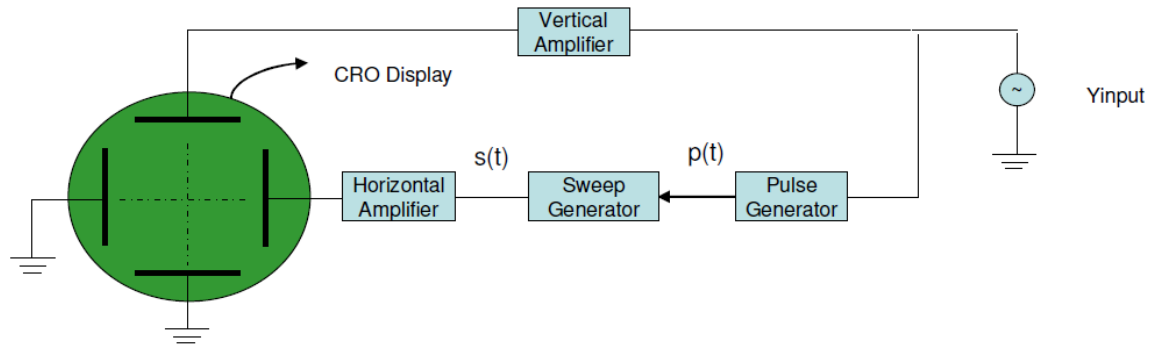
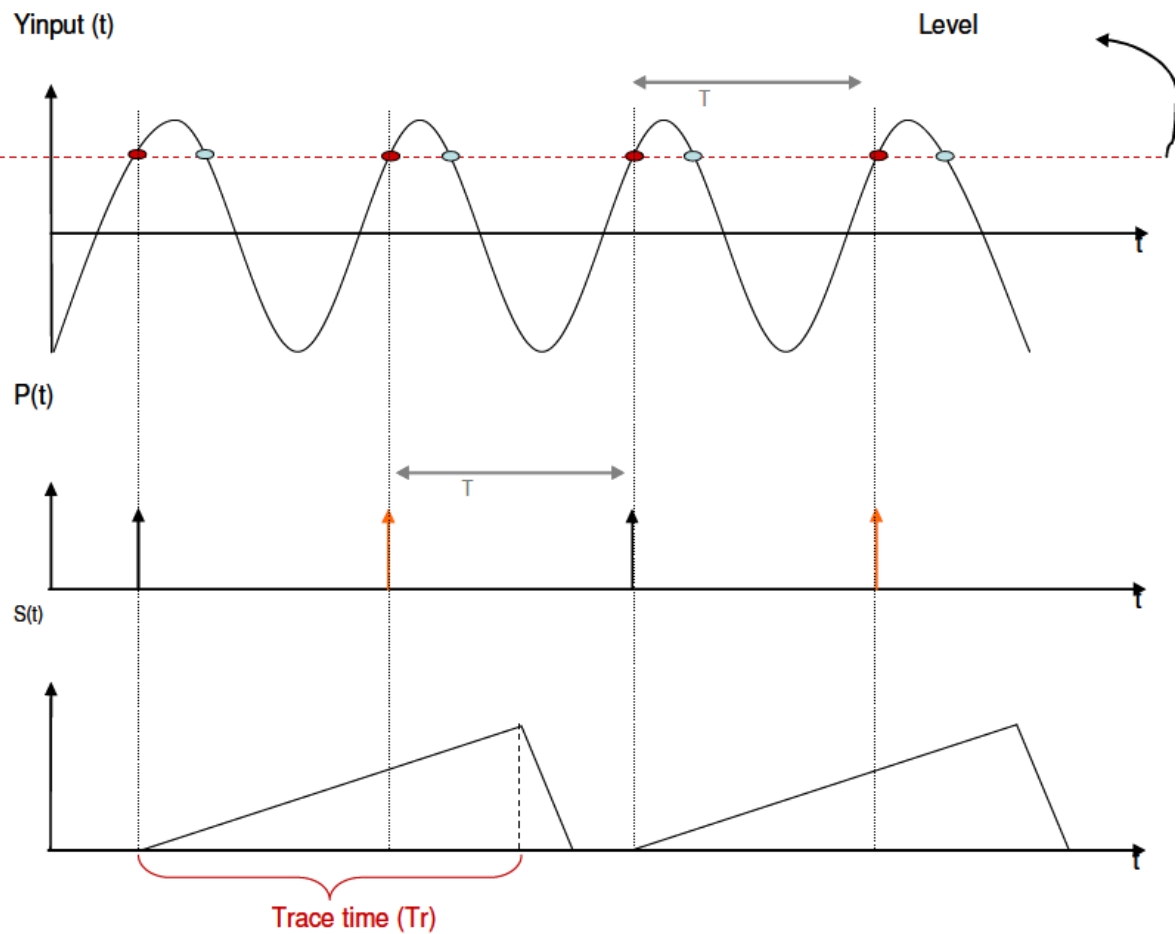

Figure 58.
Figure 59.
The main function of the pulse generator (PG) (see figure 58.) is to produce periodical pulses with a period of T , which is equal to the period of the input signal. For that purpose, the input signal is compared to a certain voltage level ('Level' on the figure 59). Producing pulses each time the input voltage is equal to that certain voltage level, may seem to result pulses which are periodic with period T . But this is not the case. Notice that, the 'Level' intersects the input signal more than once in one period. Therefore, one of the intersection points is neglected in each period. The decision on which intersection point to neglect is made by inspecting the slope of the signal at the intersection point.
The pulse generator produces pulses each time the input voltage level is same as the 'Level', after checking the slope of the signal at that time instant. In the example given in figure 59, there are two intersection points at each period, and the one with the negative slope (blue points)